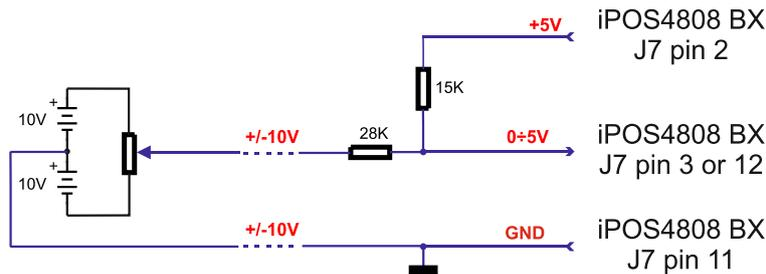

Figure 3.10. +/-10V to 0-5V adapter
1. Default input range for analog inputs is 0+5 V for REF and FBDK. For a +/-10 V range, see Figure 3.10.